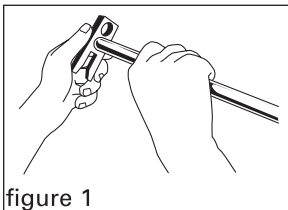
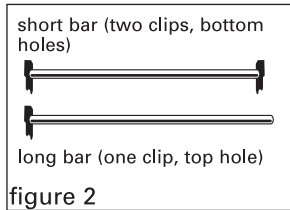

figure 1
figure 2
1. Press the plastic clips onto the support bars. The short bar (or bottom bar) will have a clip on each end and should be pressed into the bottom hole of the clips (figure 1). The long bar (or top bar) will have a clip on one end and it should be fitted into the top hole of the clip (figure 2).